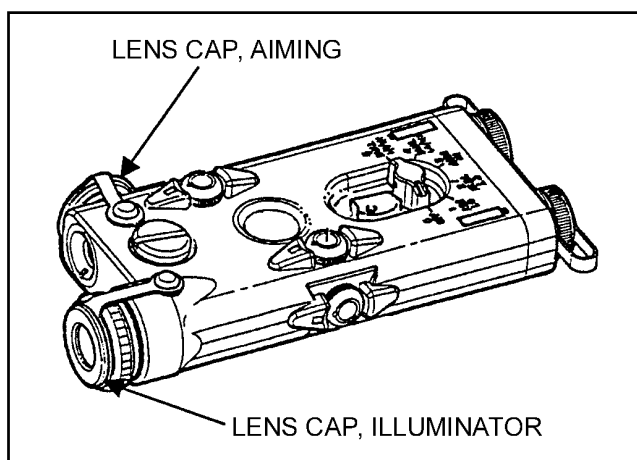

Figure F-12. Installing the lens caps.
(7) **Lens Cap** (Figure F-12).